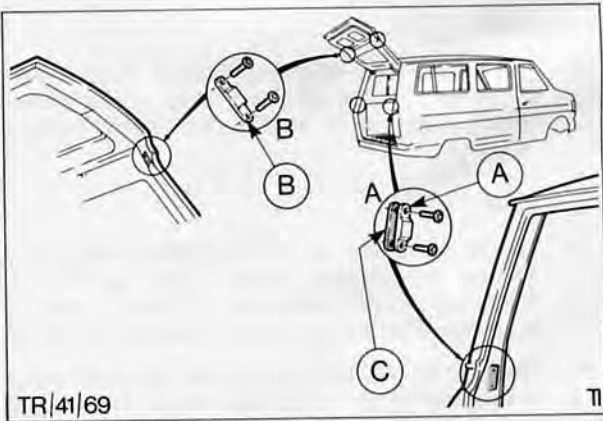

Fig. 59. Tailgate bumper assemblies
7. Check alignment of bumpers, if necessary add pads under bumper on body pillar to achieve necessary contact. Tighten bumper screws on tailgate and body pillars, Fig. 59.